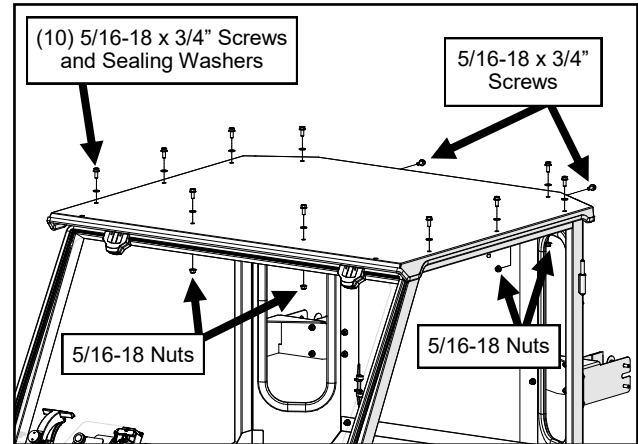

Fig. 13.2 (Install Roof)
- 13.2** With assistance, set the roof on top of the cab. Loosely secure with sealing washers on the (10) screws through the top of the roof and (2) screws and nuts on the back. See Figure 13.2.